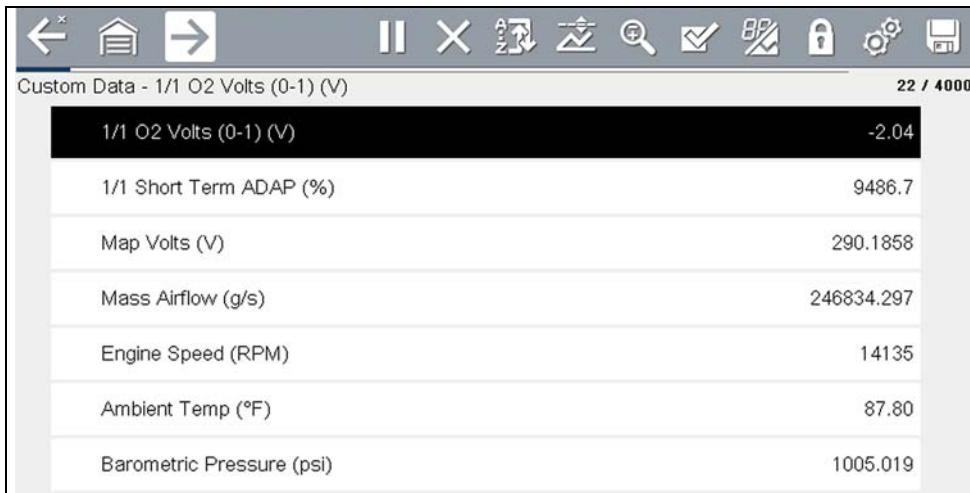

Figure 5-19
4. The custom list displays (Figure 5-19).